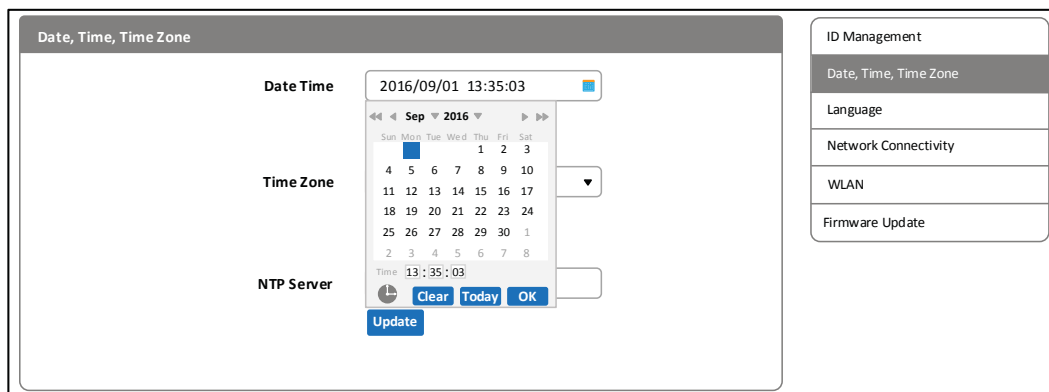

Figure 28, Date Time Field
2. Click the calendar icon in the *Date Time* field (Figure 28).